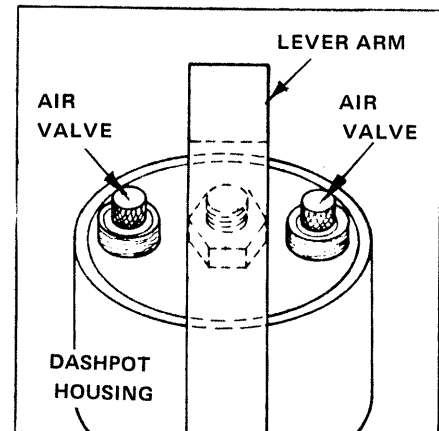

FIGURE 9-49 Dashpot Air Valves.
- J. Check the tightness of the Air Valves on the top of the Dashpot (See FIGURE 9-49). If they are tight, turn each one 1/4 turn COUNTERCLOCKWISE to decrease the internal resistance of the Dashpot (which increases the thrust of the Solenoid). If they are loose, proceed to Point 'L'. After adjusting the Air Valves, install the Vorsetzer on the piano (See the CAUTION above), plug the Power Cord into the Circuit Interrupter turn the Power ON, and try the Solenoid again. If the Solenoid functions correctly, proceed to Point 'X' on page 152. If it does not function correctly, proceed to the next Point (K).
- K. If installed, remove the unit from the piano (See CAUTION above), loosen the Lock Nut at the top of the Dashpot (See FIGURE 9-49), and turn the top of the Dashpot CLOCKWISE a turn or two. Install the Vorsetzer on the piano and try the Solenoid again. If necessary, readjust the top of the Dashpot by this procedure until it is operating correctly, then tighten down the Lock Nut. If the Solenoid is adjusted and working properly, proceed to Point "X" on page 152. If this procedure was ineffective, proceed to Point L below.
- L. Stop the tape, turn the ① POWER and Interlock Switches OFF, unplug the Power Cord (See the CAUTION above), and move the unit away from the piano (See the CAUTION above), then proceed to